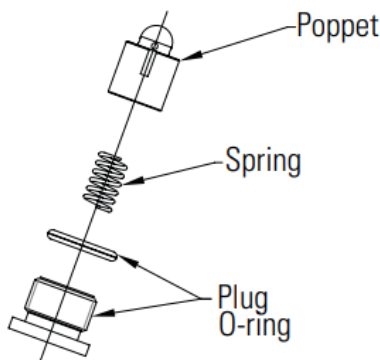

Figure 35 Low Pressure Relief Valve Parts
3. Remove poppet and spring (pressure relief valve) as shown in Figure 35